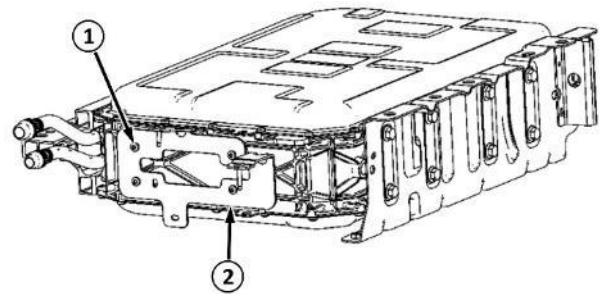

Figure 53 – HV Battery - Secondary
40. Remove the four fasteners securing the wire bracket to the front of the HV secondary battery (Figure 53).
48. Install four fasteners securing the wire bracket to the front of the HV secondary battery and tighten the fasteners securely (Figure 53).